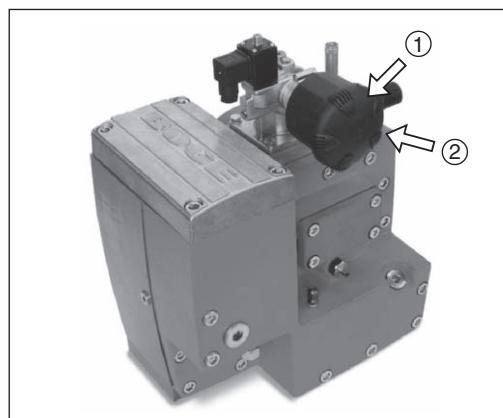

Fig. 4.2: Changing the suction filter
- Remove lid ① of the filter housing (see fig. 4.2).
- Remove filter cartridge ② (see fig. 4.2).